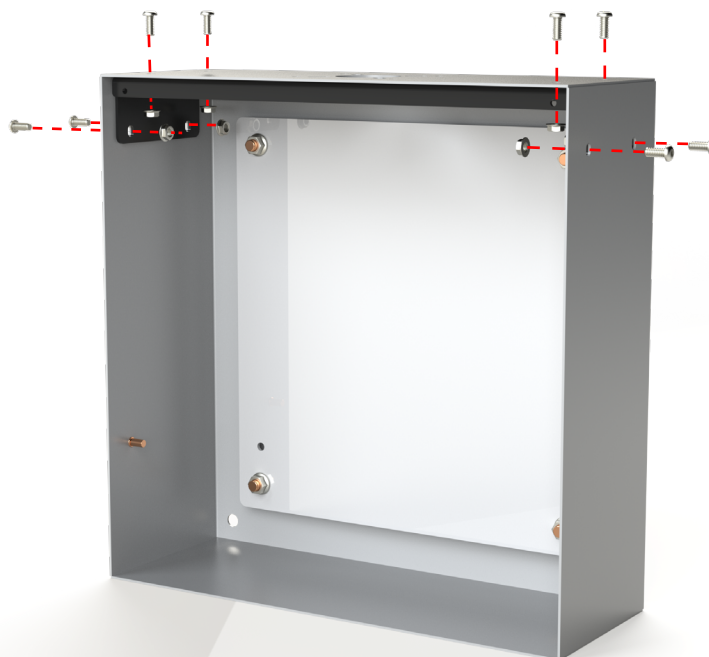

Figure 4: Location and Orientation of 1/4-20 Screws
2. Align the assembly with the inside top of the enclosure. Refer to **Figure 4** for the locations and insertion orientation of all 1/4-20 screws.